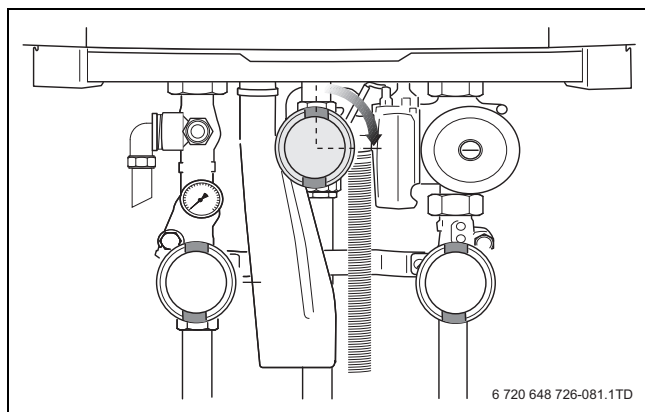

Fig. 81 Closing the gas valve
- ▶ Close the gas valve in a clockwise direction (→ fig. 81, page 39).
- ▶ Close the gas valve (→ fig. 81, page 39).